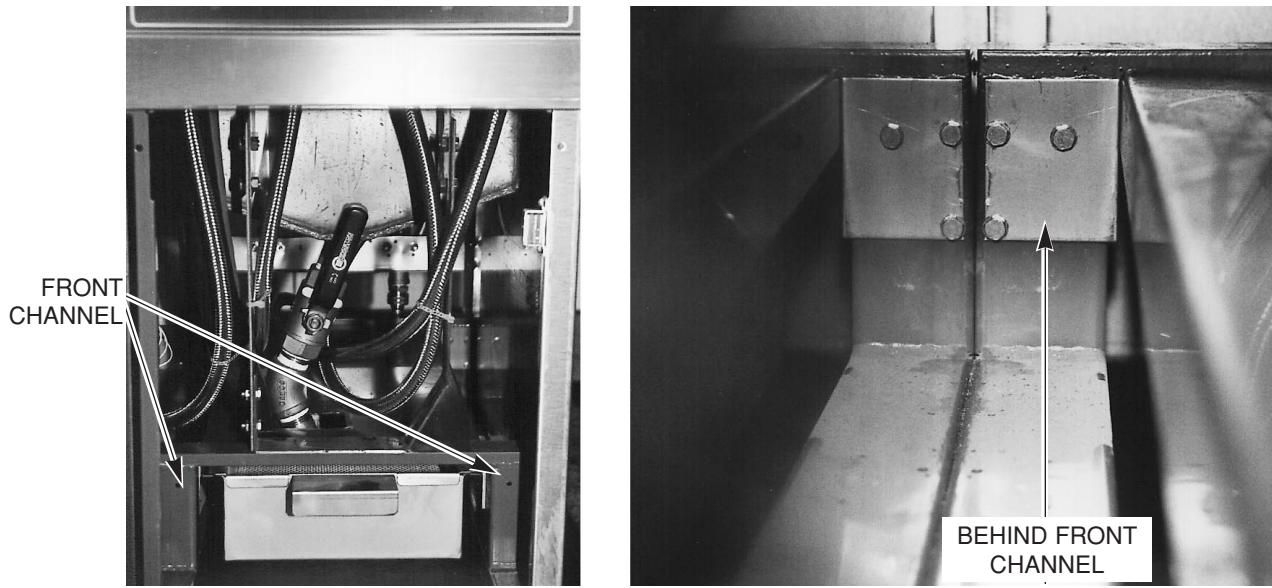

Fig. 57
2. From the front of unit with your hand reach around the front frame channel and feel for the (3) screws and scrap box mounting bracket. (Fig 57)
3. With a  $\frac{5}{16}$ " socket remove (3) holding screws from each flange on either side of the front frame channels. (Refer to Fig. 57)